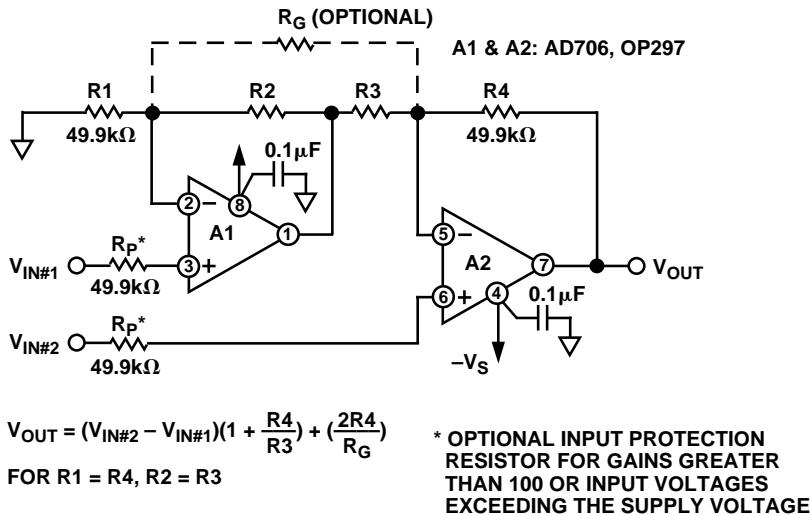

Figure 8. A Two Op-Amp In-Amp Circuit
Figure 8 is a schematic of a typical two op-amp in-amp circuit. It has the obvious advantage of requiring only two, rather than three, operational amplifiers with subsequent savings in cost and power consumption. However, the nonsymmetrical topology of the two op-amp in-amp circuit can lead to several disadvantages compared to the three op-amp design, most notably lower ac CMRR, which limits its usefulness.
Table I shows amplifier gain vs. circuit gain for the circuit of Figure 8 and gives practical 1% resistor values for several common circuit gains.
**Table I. Operating Gains of Amplifiers A1 and A2 and Practical 1% Resistor Values for the Circuit of Figure 8**